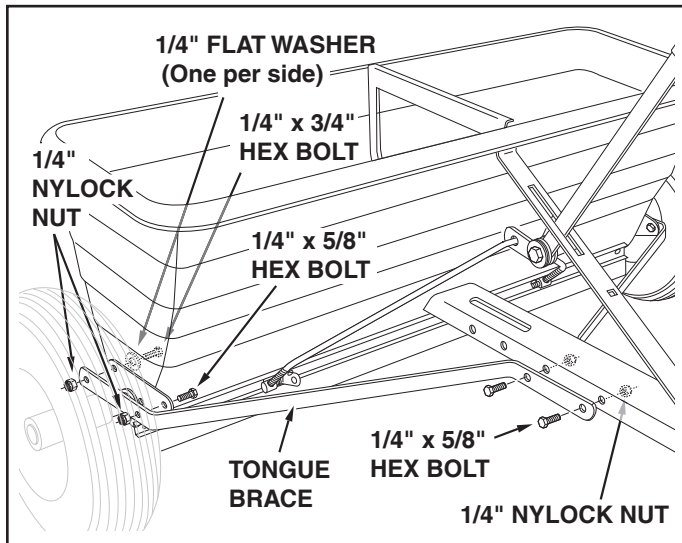

FIGURE 4
8. Assemble one end of a tongue brace to the side of the tongue using two 1/4" x 5/8" hex bolts and 1/4" nylock nuts. **Do not tighten yet.** See figure 4.
9. Assemble the other end of the tongue brace to the triangular plate on the end of the spreader. Use a 1/4" x 5/8" hex bolt and 1/4" nylock nut in the front hole of the plate. Use a 1/4" x 3/4" hex bolt, 1/4" flat washer and 1/4" nylock nut in the rear hole, with the bolt and washer assembled on the inside of the hopper as shown in figure 4. **Do not tighten yet.**